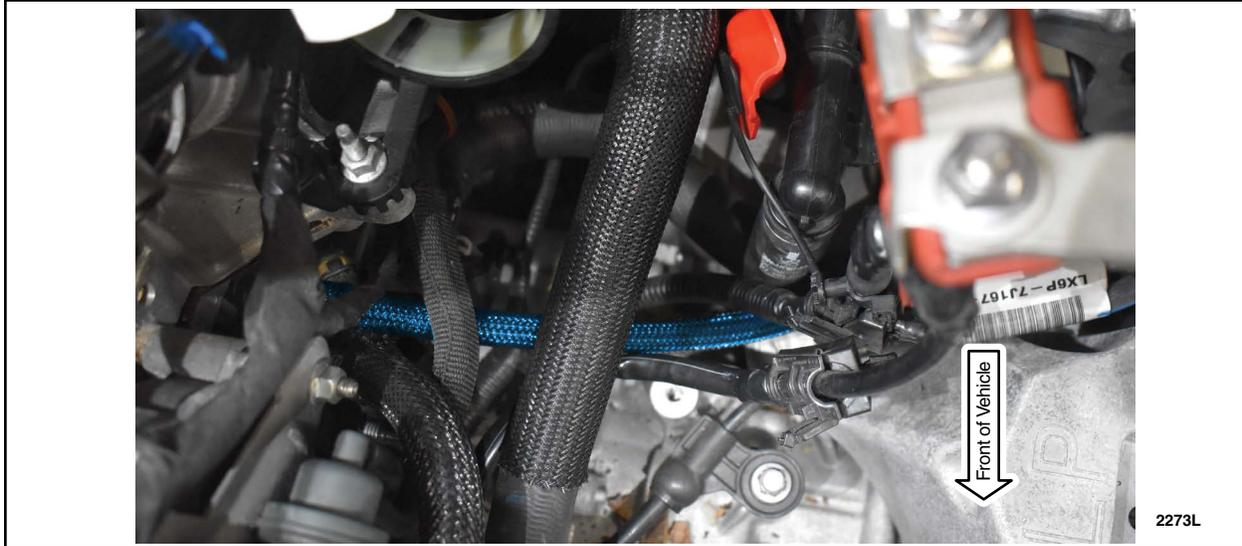

FIGURE 15
29. Route hose as shown in Figure 15.